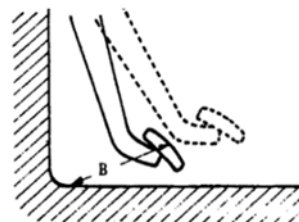

Fig.3.7-27
3) Press the brake pedal by applying the force of about 30kg, measure the clearance between brake pedal arm and floor. The clearance is no less than 95mm. (Fig.3.7-27).